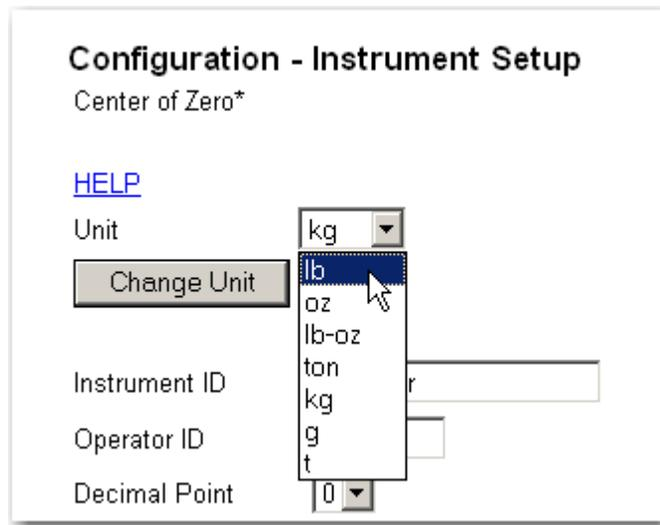

FIG. 189 INSTRUMENT SETUP/SELECTING UNIT
- Grams (G)
Step 2. Click on the Units pull down list. (See Fig. 189)